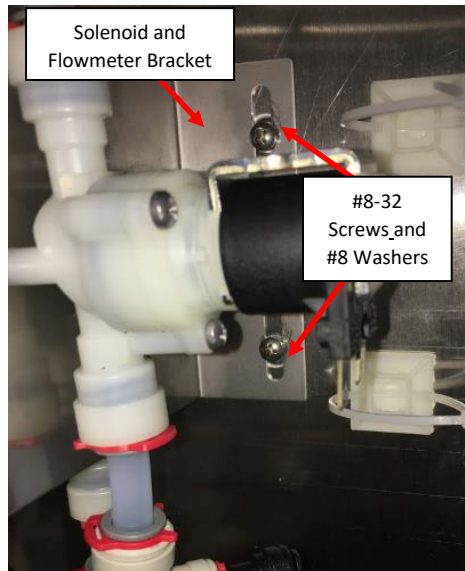

Figure G1: Flowmeter-Solenoid bracket held with two #8-32 Screws and two (2) #8 Washers.
1. Remove the two screws (8-32) holding the flowmeter-solenoid bracket in place. See **Figure G1**.